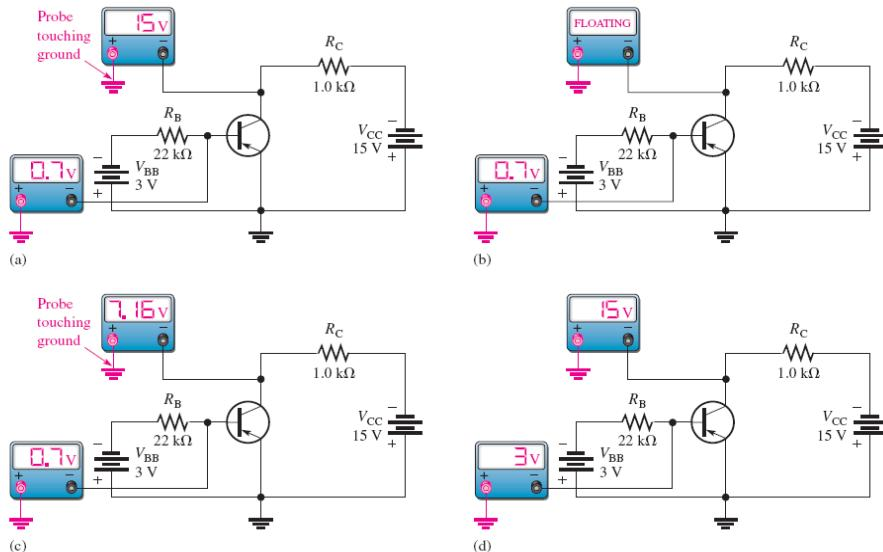

Figure 4-64
38. What is the most likely problem, if any, in each circuit of Figure 4-64? Assume a β_{DC} of 75.